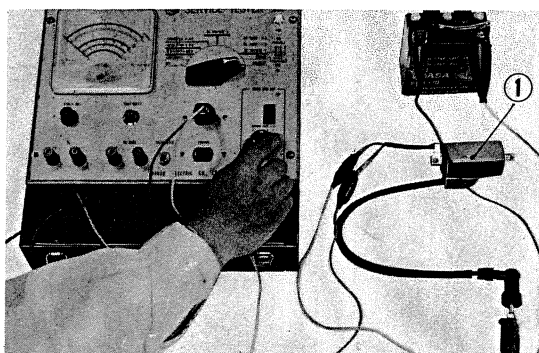
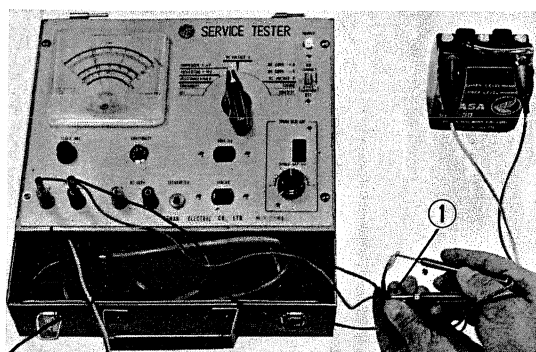

Fig. 156 Ignition coil test
Fig. 158 Condenser test
- ① Perform functional test of the ignition coil to determine its condition. When poor starting is experienced, the cause may also be found by testing the spark plug, contact breaker points, condenser, etc.
- ② Check the ignition coil using the service tester.
- ③ Connect the battery power source to the tester and ground the grounding lead. (Fig. 156)
① Separator plate ② Cathode plate ③ Separator plate ④ Glass mat ⑤ Anode plate
- ④ Connect the ignition primary cord to the tester and connect the opposite terminal end to the primary terminal of the coil. Connect the white lead with (V) type plug to the blue terminal of the ignition coil (primary side) and the red tester lead to the black terminal of the ignition coil. (Fig. 156)
- ⑤ Connect the red tester high tension cord to the high tension cord of the ignition coil.
- ⑥ Turn the selector knob to the COIL TEST position.
- ⑦ Adjust the three point spark tester to maintain maximum distance of spark by turning the control knob while observing the spark condition and then measure the spark distance.
- ⑧ If the spark plug distance is less than 6 mm (0.24 in.), the spark plug is un-serviceable.
2) Condenser test (Fig. 158)